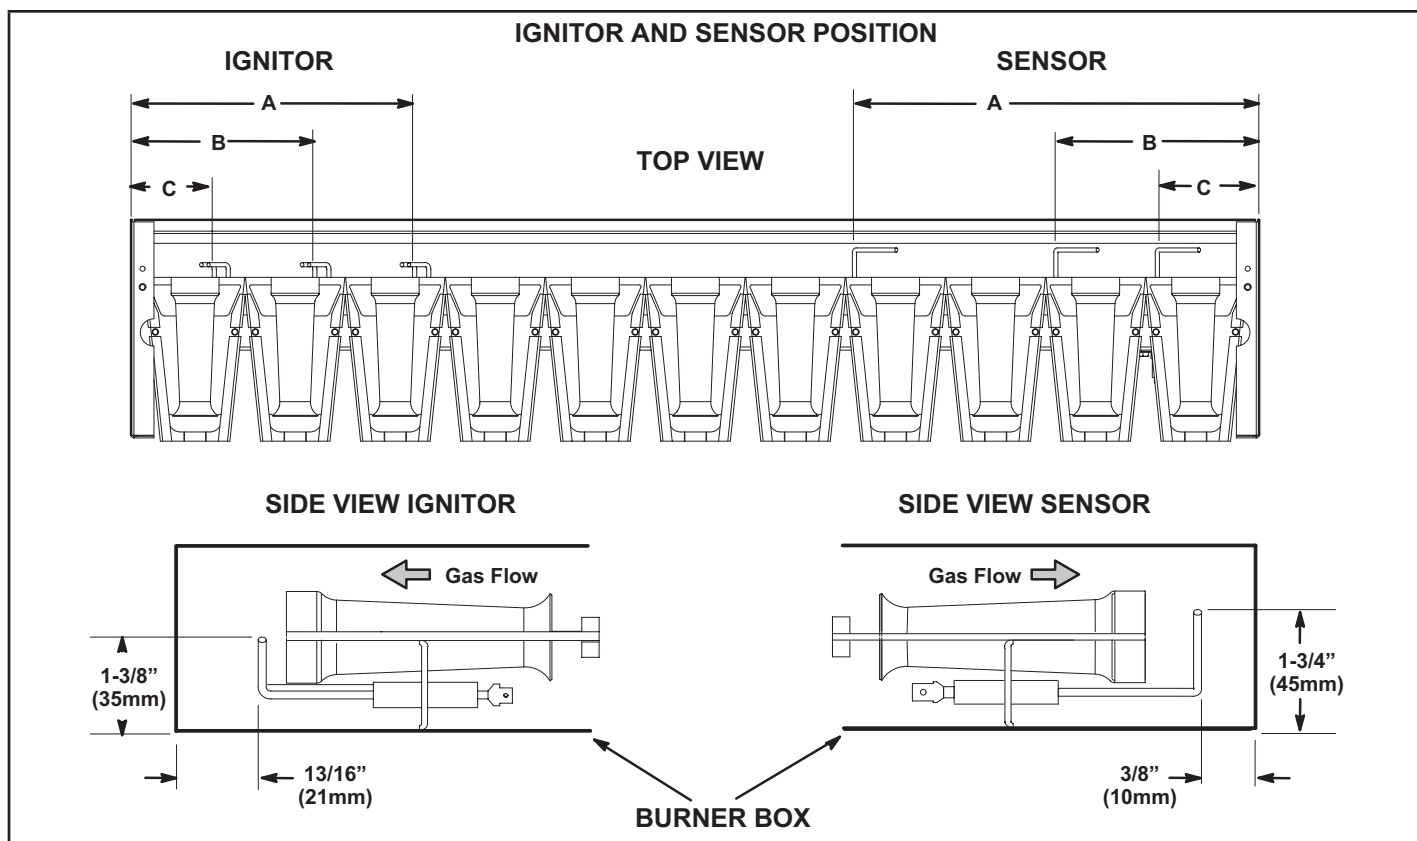

FIGURE 34
- 5 - Check the alignment of the ignitor and the sensor as shown in FIGURE 34.